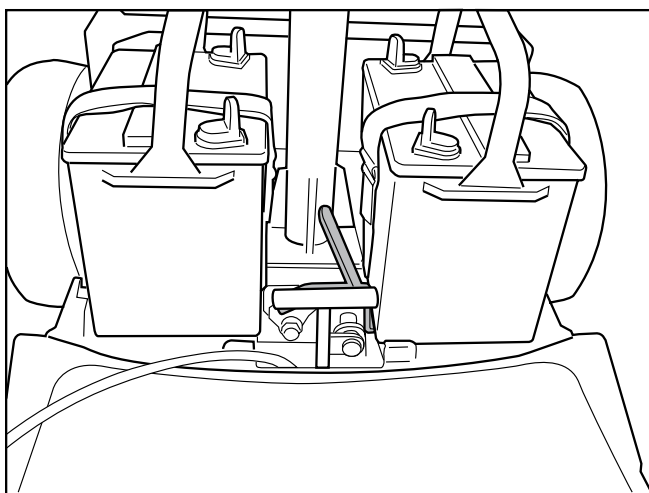

Fig. 30
- 5.** The figure above shows the batteries properly placed and secured with hook and loop straps and the latch properly engaged. (Fig. 30)